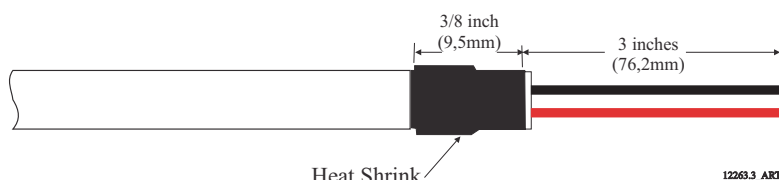

Figure 4-16: Two-Conductor Power Cable
- E Strip back 3 inches (76,2mm) of the PVC jacketing. Refer to Figure 4-16: Two-Conductor Power Cable